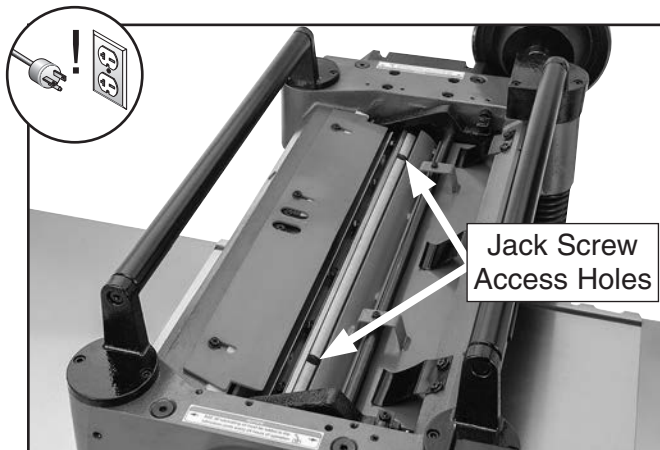

Figure 32. G0453W & G0454W jack screw access hole in cutterhead.
5. Insert hex wrench into jack screws through access holes in cutterhead (see **Figure 32**). Rotate jack screws to raise or lower knife until it barely touches center pad of knife-setting jig with all legs of jig still firmly on cutterhead, then snug gib bolts enough to hold knife in place.